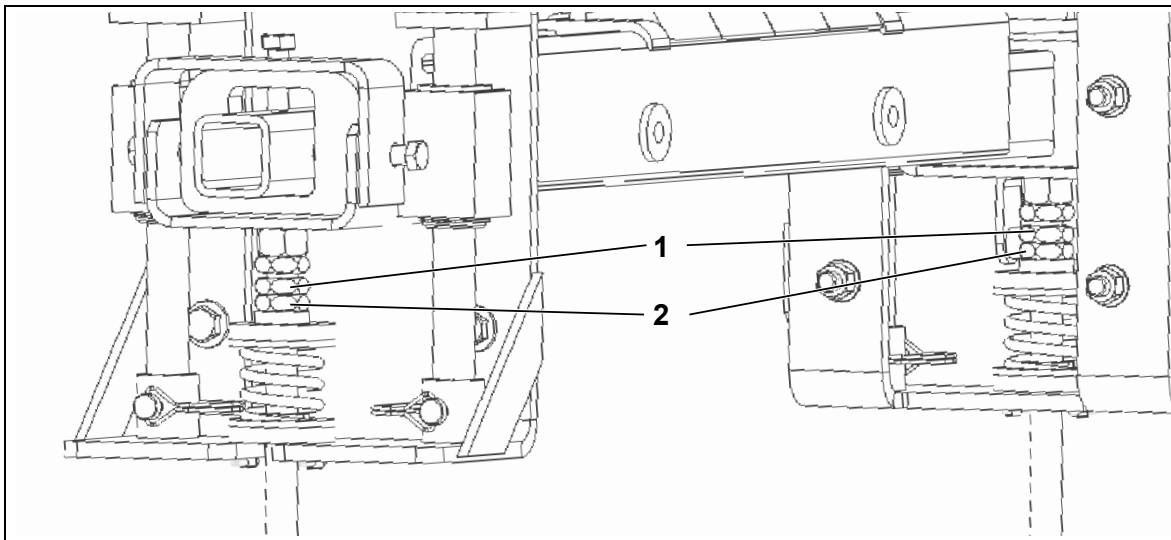

Fig. 25
- Spring tensioner: Loosen the locknuts (1, Fig. 25) and adjusting nuts (2, Fig. 25) on both sides.
- Spring tensioner: Turn the locknuts (1, Fig. 25) fully upwards. Loosen the adjusting nuts (2, Fig. 25) equally on both sides and turn them completely upwards.